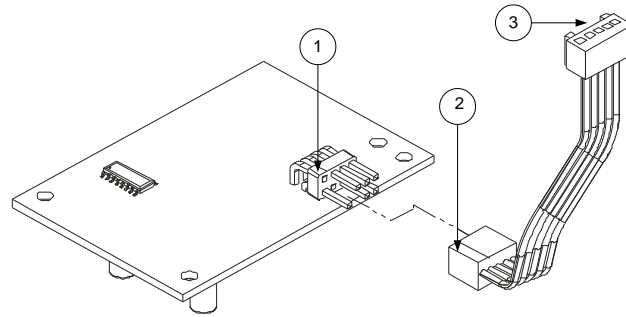
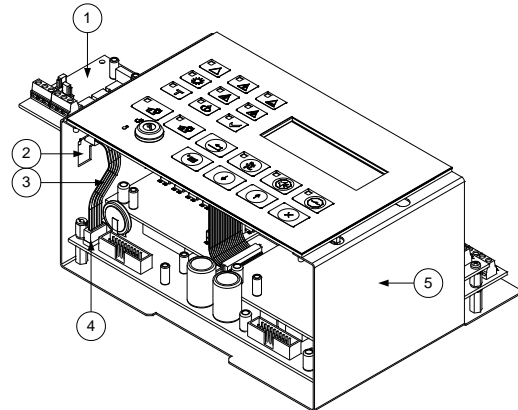

Fig.10
Fig.12
3.5. Connect the ribbon cable from the set to the module; observe the direction marks pos.1 (Fig.10) and pos. 2 (Fig.10)
3.7. Pass the ribbon cable pos.3 (Fig.12) through the installation hole pos.2 (Fig.12) and connect it to the coupling pos.4 (Fig.12) of the main module; observe the direction pointed by the marks pos.3 (Fig.10).